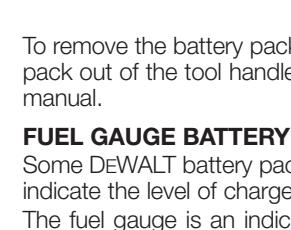

FIG. 5
**NOTE:** The chuck accepts 1/4" (6.35 mm) hex accessories and 1" (25.4 mm) bit tips only. Place the forward/reverse button (B) in the lock-off (center) position or remove battery pack before changing accessories.
**To install an accessory,** fully insert the accessory. The accessory is locked into place (Fig. 5).